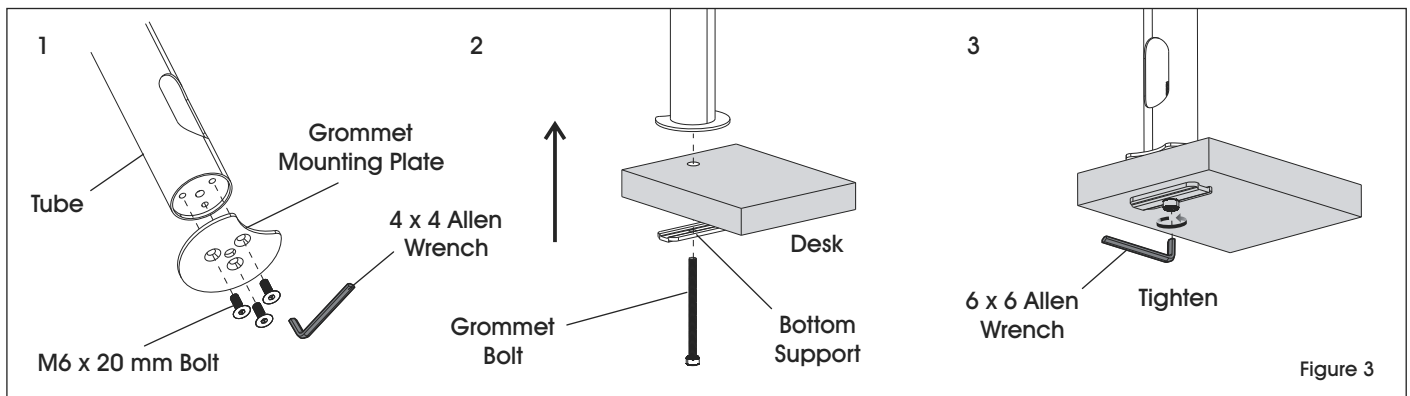

Figure 3
1. Attach grommet mounting plate (8) to bottom of tube (4) using M6 x 20 mm bolts (C) and 4 x 4 Allen wrench (F). (See Figure 3)